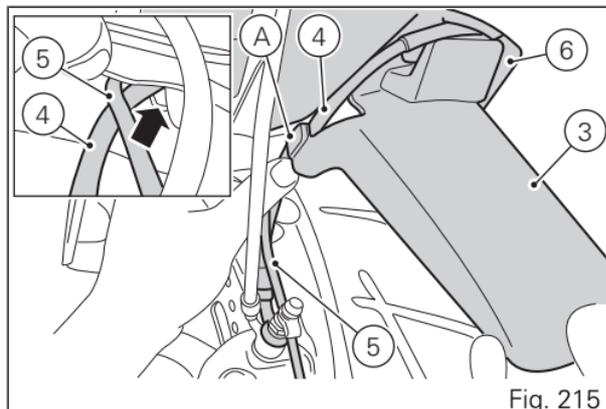

Fig. 215
Position the front semi-mudguard kit (3) on the front mudguard (6), housing the front brake pipe (4) and the front phonic wheel cable (5) as shown in the figure (Fig. 215).